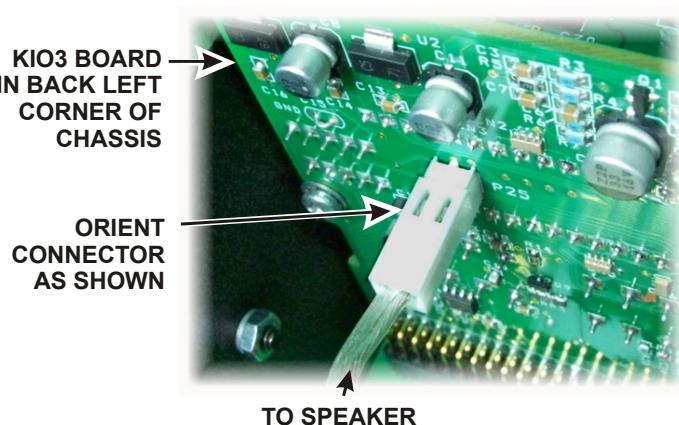

Figure 3. Reconnecting Speaker.
- Hold the top cover above the K3 and route the loudspeaker wire under the stiffening bar to the KIO3 board in the back left corner of the chassis. Plug it in at P25 with the connector oriented as shown in Figure 3.